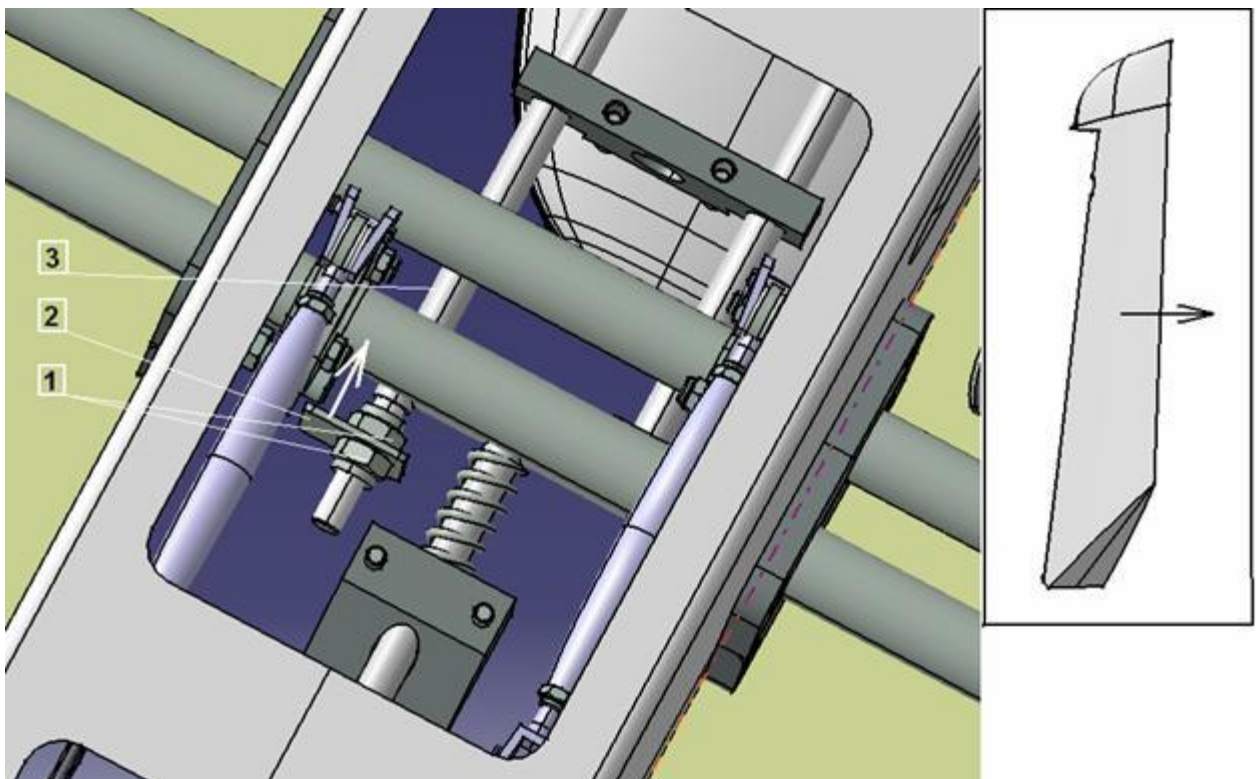

Fig. 8
- 5) Shifting rudder neutral position to the right can be done in the same way as shifting rudder neutral position to the left, but the stop plate KA6050206 (2) has to be moved away from the engine (Fig.8).